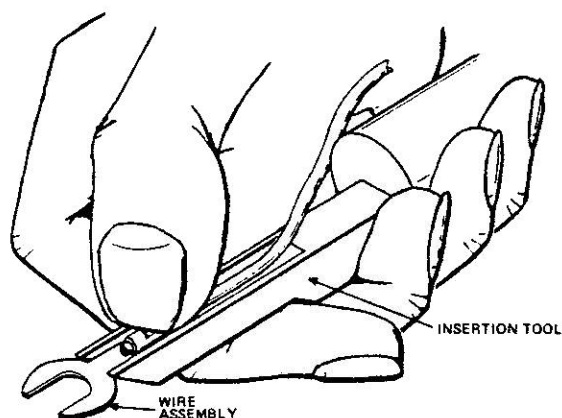
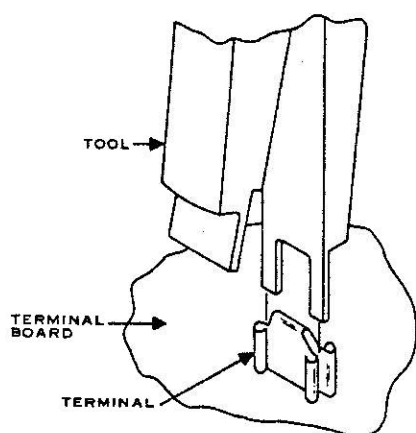

Figure 12. Terminal Insertion Tool (BT-900493-SP).
Figure 13. Receptacle Adjustment Tool.
6.01 When making wiring connections from the various components to the terminal network, refer to Figures 4 and 5 for a rotary dial telephone, Figures 6 and 7 for an inductor-capacitor TCU telephone, and Figures 8, 9, 10 and 11 for an integrated circuit TCU telephone. Remove the housing (Figure 3) and use the insertion tool, BT-900493-SP (Figure 12), to make the connections. If the quick connect terminals on the transmission network have opened up either accidentally or by previous use of two connections, a receptacle adjusting tool, CT-900514SP (Figure 13) must be used to adjust the receptacle size. To resize this quick-connect terminal, insert the fingers of the adjusting tool into the terminal until the fingers contact the terminal network card. Squeeze the handles together firmly but do not twist the tool.
8. FOR TWO CONNECTIONS TO ONE SIDE OF A TERMINAL ON THE NETWORK, INSERT THE FIRST TERMINAL IN THE NORMAL MANNER AND INSERT THE SECOND TERMINAL LEAD BETWEEN THE TERMINAL ON THE TERMINAL BOARD AND THE FIRST SPADE TERMINAL (FIGURE 13).
3. FOR TWO CONNECTIONS TO ONE SIDE OF A TERMINAL ON THE NETWORK, INSERT THE FIRST TERMINAL IN THE NORMAL MANNER AND INSERT THE SECOND TERMINAL LEAD BETWEEN THE TERMINAL ON THE TERMINAL BOARD AND THE FIRST SPADE TERMINAL (FIGURE 13).
3. FOR TWO CONNECTIONS TO ONE SIDE OF A TERMINAL ON THE NETWORK, INSERT THE FIRST TERMINAL IN THE NORMAL MANNER AND INSERT THE SECOND TERMINAL LEAD BETWEEN THE TERMINAL ON THE TERMINAL BOARD AND THE FIRST SPARE TERMINAL (FIGURE 13)